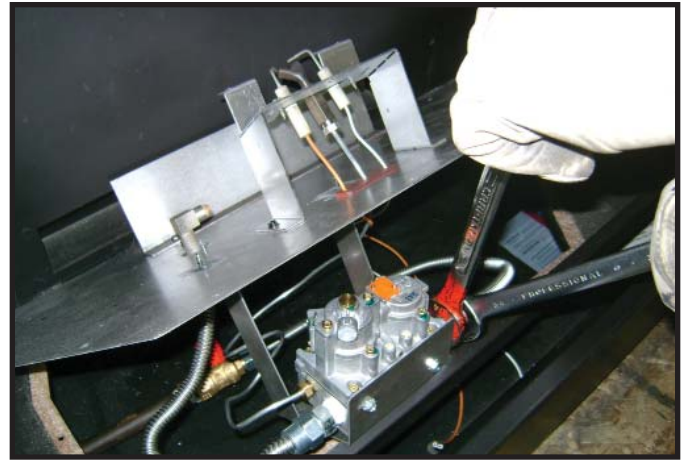
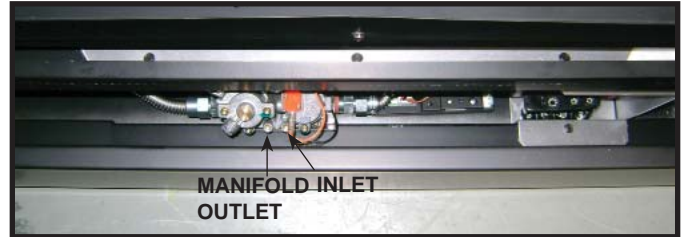

Figure 11.4. Disconnect Gas Valve
Figure 11.5. Pressure Taps
- 3. Set the valve bracket on the front lip of the firebox bottom. Turn "off" the ball valve. Disconnect gas valve from the gas flex ball valve assembly at the pressure fitting. See Figure 11.4.
**Note:** The manifold and inlet pressure tabs can be accessed from the front of the fireplace, this requires the decorative front and fixed glass assembly to be removed (see Figure 11.5). The manifold and inlet pressure tabs can also be accessed by removing the valve assembly (see Figure 11.4).